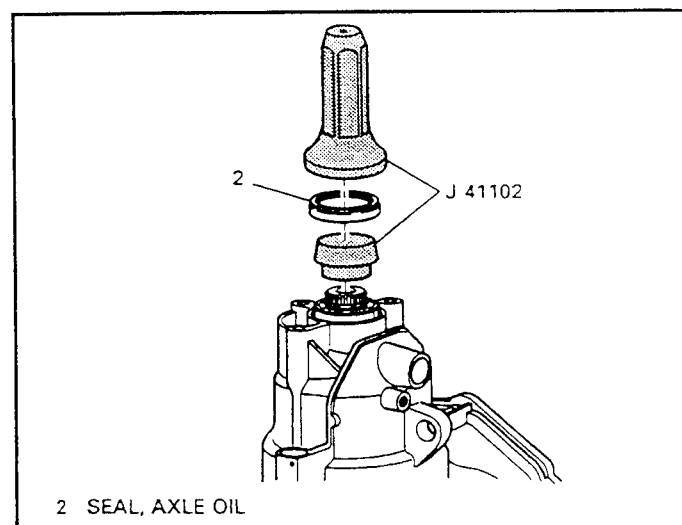

Figure 188
23. Install a new right hand axle seal into transaxle case using tool J-41102 (See Figure 188). Tool J-41102 installs the seal to a given depth and also spreads the seal to get it over the sleeve without any damage.